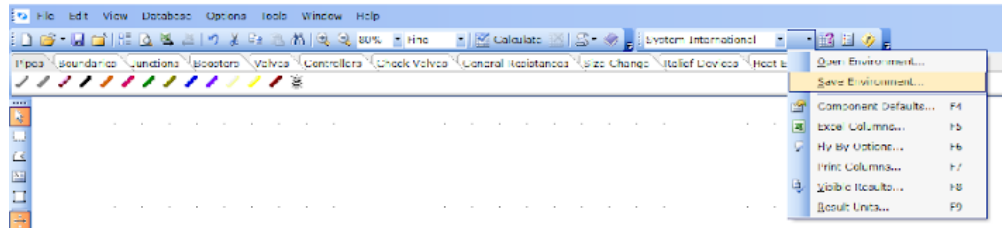

Figure 22: Save Environment Option.
24. Now that we have set the results unit, let us save the custom result unit set. Click the drop-down button at the right of the default unit set and select the Save Environment option (Figure 22).